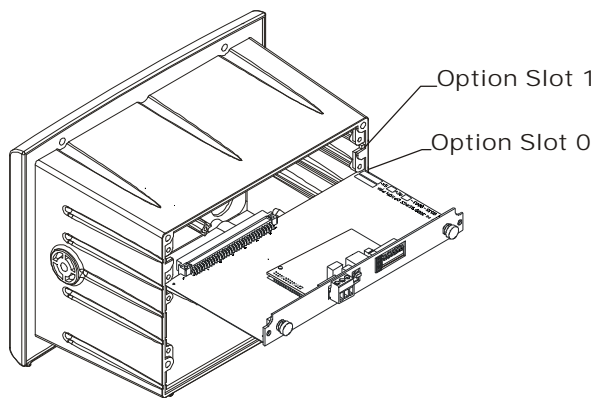

FIG. 5: REMOTE I/O/SLIDE INTO OPTION SLOT #0
Step 2. Slide the RIO Option Card into Slot #0. (See Fig. 5)